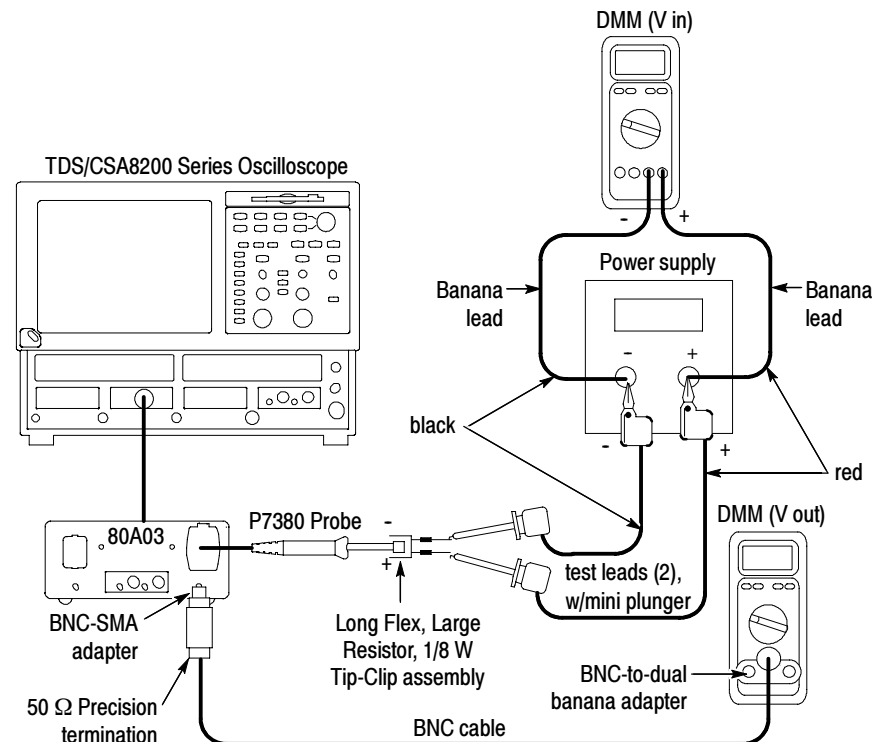

Figure 13: DC Gain Accuracy setup
2. Connect the probe with a Tip-Clip assembly to the power supply as shown in Figure 13. Monitor the source voltage with one of the DMMs.